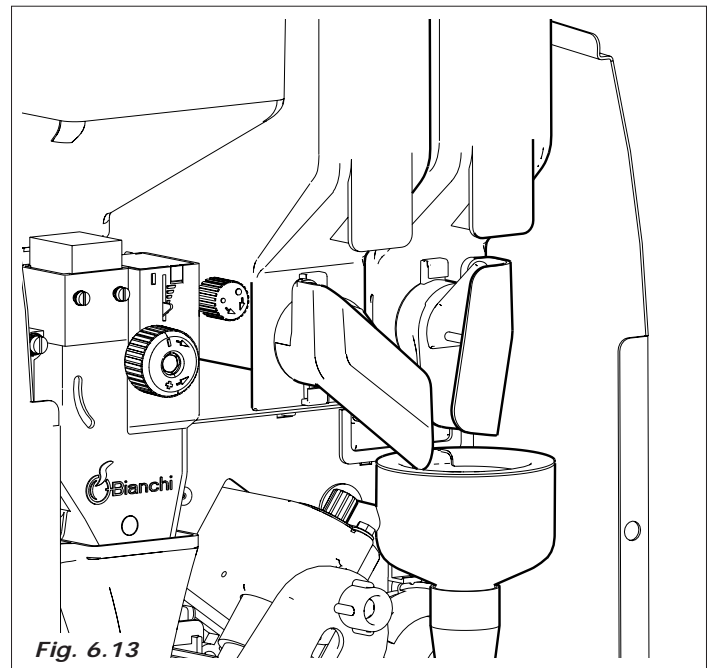

Fig. 6.13
- at the end of the water filling (*Fig. 6.13*), effect a cleaning cycle of the mixer group so as to fill all the circuits and remove eventual residues from the boiler.